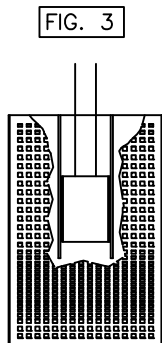

FIG. 3
Attach one (B) attached chair to the seat end of one leg. Align the leg's mounting plate to the inside of the chair's mounting brackets, see FIG. 3. Use four, per each chair, (E), (F), (H) using two (D) per (E).